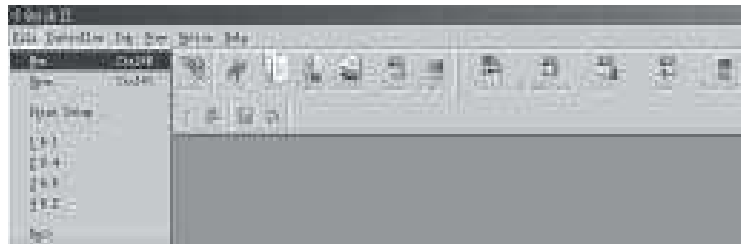

Fig. 4.1. Open a new file
1. To open a new file, click **NEW** option under the Function List file or the **icon** in the Tool Bar, as shown in Fig. 4.1.